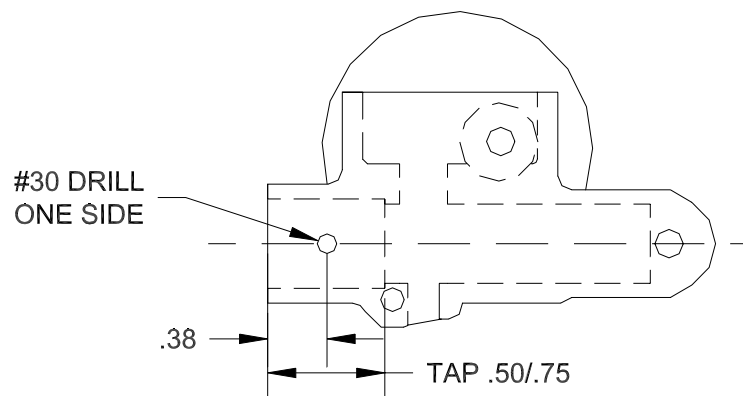

Figure C1B-017.1 - Trim Control
Actuator assemblies containing a #30 drilled hole in housing through the wall of the inner spring tube socket as shown in Figure C1B-017.1 are in compliance with this Service Bulletin and no further action is required. During inspection, soft jaw pliers may be used in lieu of finger pressure as long as care is taken not to cause permanent distortion of the inner tube. If some, or all, of the resin fillet has a cream or light pink color (doesn't transmit the black color of the housing through the resin), this is an indication of bond separation. To confirm separation, a drop of alcohol on the edge of the fillet and housing will indicate a color change if resin bond has separated.
Actuator assemblies containing a #30 drilled hole in housing through the wall of the inner spring tube socket as shown in Figure C1B-017.1 are in compliance with this Service Bulletin and no further action is required.
- e. Drill a No. 30 hole in the housing through the socket wall as shown in Figure C1B-017.1; deburr hole paying particular attention to burrs on the inside diameter of the housing tube socket.
- f. Cut spiral grooves inside the housing tube socket to depth of 0.50 to 0.75 inch using a 5/8"-11 standard tap as shown in Figure C1B-017.1 and remove all loose debris. Clean with MEK and dry with clean cloth.